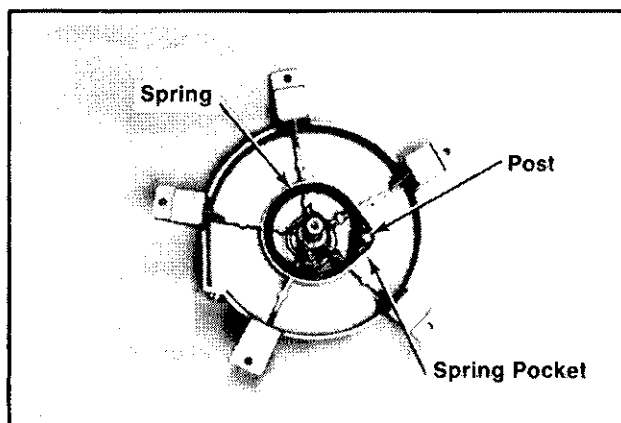

Figure 7-16. Position Of Spring In Housing.
1. Carefully note the position of the spring in the housing. Also refer to Figure 7-16. The new spring must be installed in the proper position—it is possible to install it backwards in the housing.
8. Position the spring/c-ring to the housing so the spring hook is over the post in the housing. Make sure the spring is coiled in the correct direction. Refer to Figures 7-16 and 7-18.